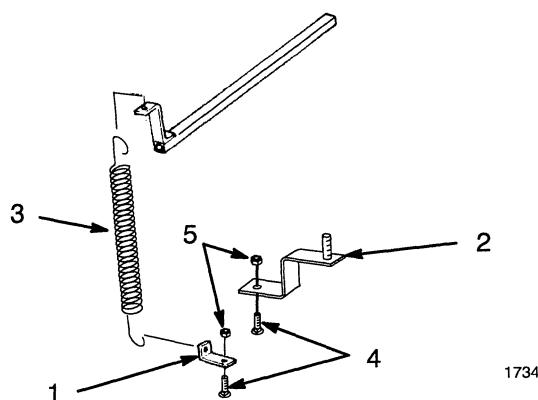

Figure 7
12. Remove and discard original hardware from deck to install spring bracket and belt cover support (Fig. 7). Loosely install spring bracket and belt cover support on deck using (2) 3/8-16 x 1-1/4 in. carriage bolts and lock nuts.
13. Raise mower to highest height-of-cut and install spring (Fig. 7). Adjust spring bracket on deck so that spring is vertical. Tighten carriage bolt and lock nut.